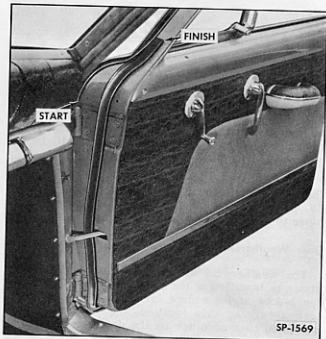

Fig. 36 Weatherseal Installation on Front Door Hinge Pillar
3. Start installing the weatherseal at the door hinge pillar below the belt line as shown in Fig. 36.
7. After the seal is twisted 90 degrees, route it to the outside of the door check strap as shown in Fig. 36. Make certain the end of the seal is positioned close to the other end where it overlaps.